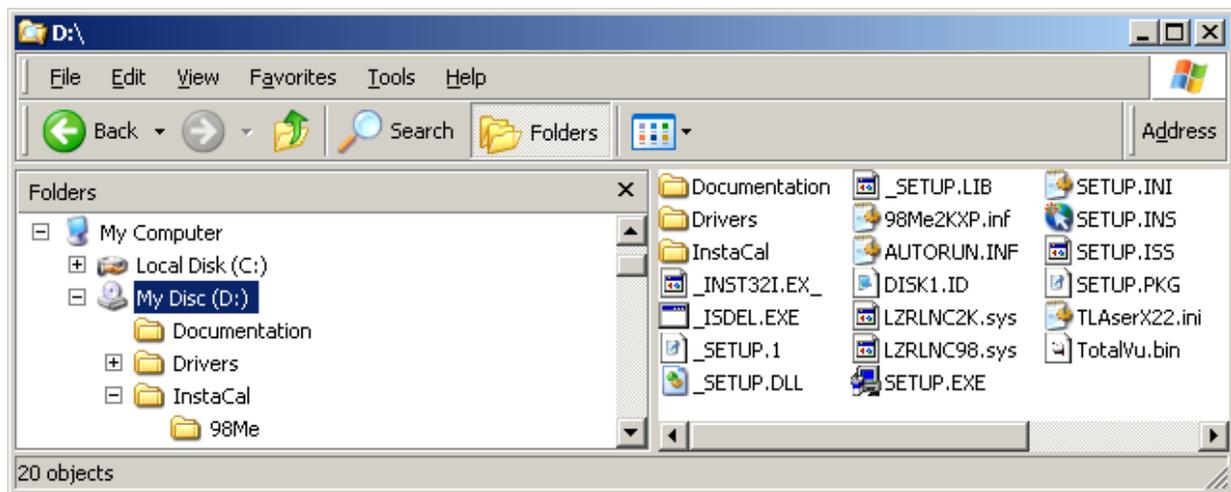

Figure 1. Root Directory on a Total Vu Installation CD
- 1.3 Double-click on the Setup.exe icon to proceed (See Figure 1).